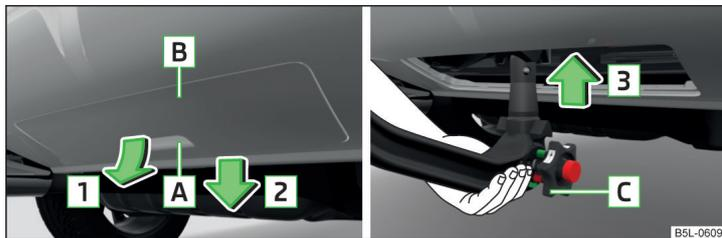

Fig. 150 Removing the cap on the rear bumper/inserting the tow bar
- Grip the cap on the rear bumper **[B]** » Fig. 150 at the handle **[A]**, release in the direction of the arrow **[1]** and remove in the direction of the arrow **[2]**.
- Grip the tow bar **from underneath** » Fig. 150 and insert into the mounting recess in arrow direction **[3]** until you hear it click into place » **!**.
The handwheel **[C]** » Fig. 150 returns **automatically** and rests on the tow bar » **!**.